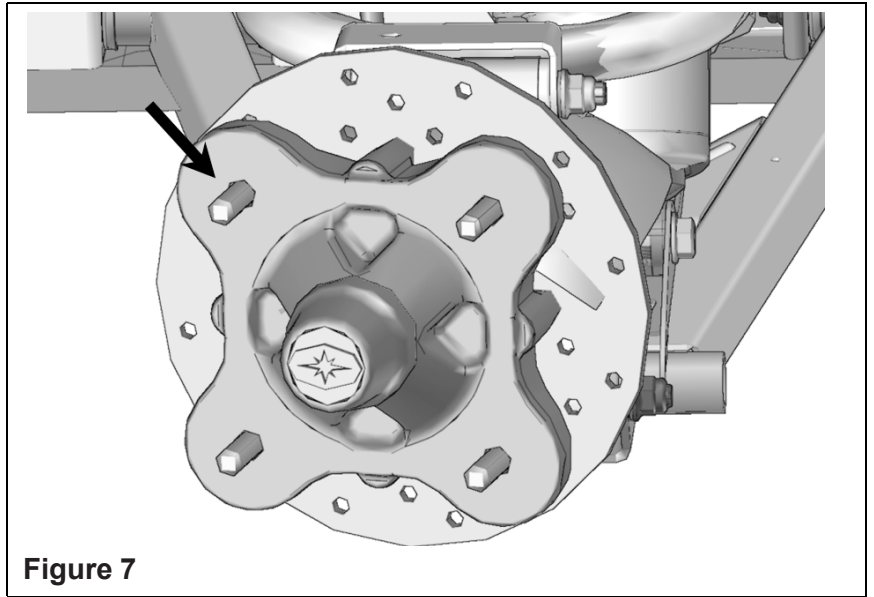

Figure 7
2. Remove the rear wheels. Make sure that wheel studs and wheel hubs are free of dirt. Figure 7.